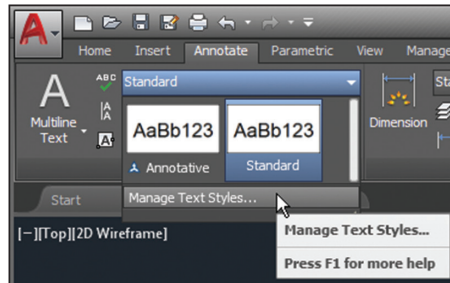

FIGURE 10.1 Managing text styles
1. On the ribbon's Annotate tab, open the first drop-down menu (for text styles). Every drawing has both an Annotative and Standard style by default. Select Manage Text Styles at the bottom of the panel (see Figure 10.1).